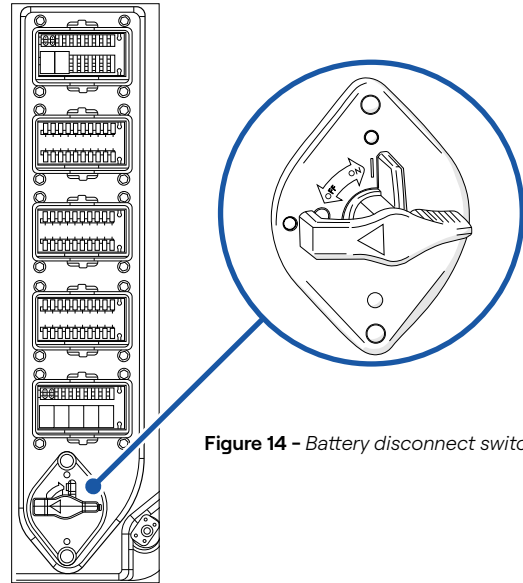

Figure 14 - Battery disconnect switch
9. Turn the battery disconnect switch to "OFF" (**Figure 14**).